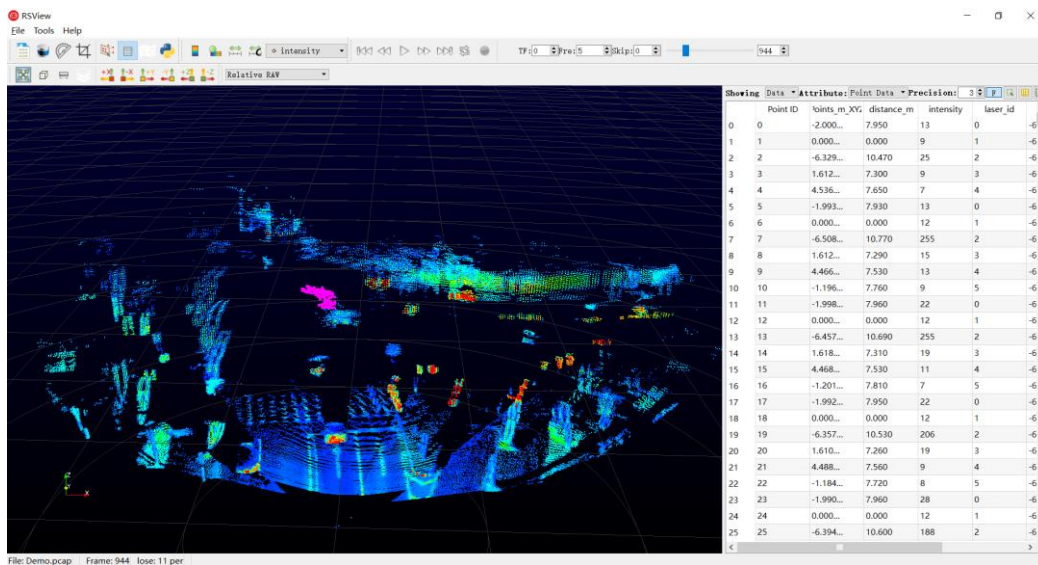

Figure A-20 RSView List Selected Points
9. In the 3D point cloud display space, use the mouse to draw a rectangle to frame some data points. The data of these points will be displayed in the **Spreadsheet** and these points will turn pink in the point cloud display space (Figure A-20).